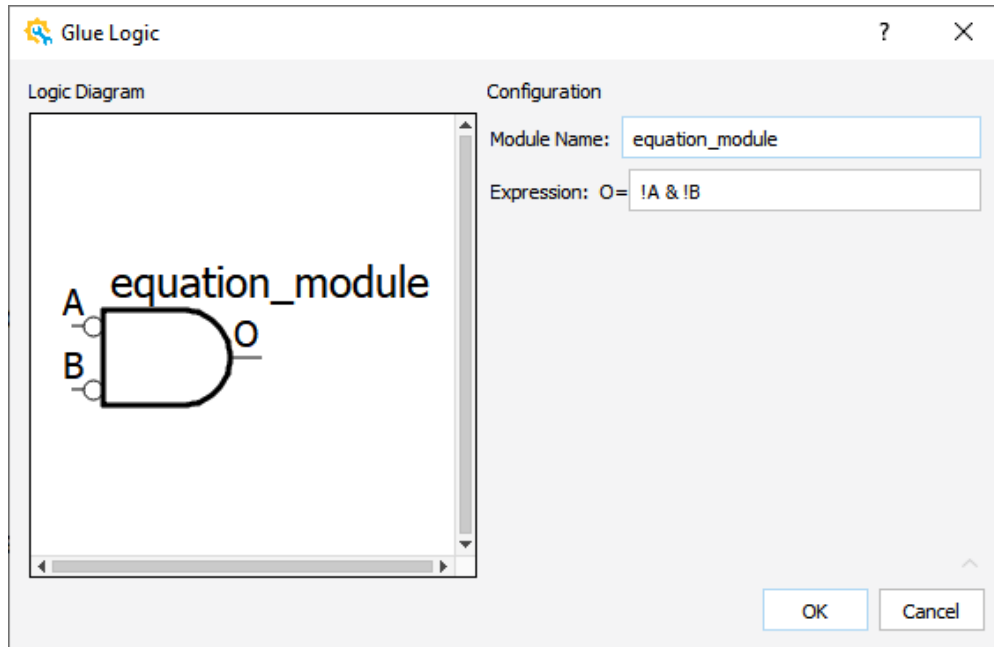

Figure 2.55. Glue Logic Wizard for Equation Module
1. From the IP Catalog, select the **equation** module. Double-click the equation module, or drag and drop the equation module to the Schematic view. A Glue Logic wizard (Figure 2.55) pops up.